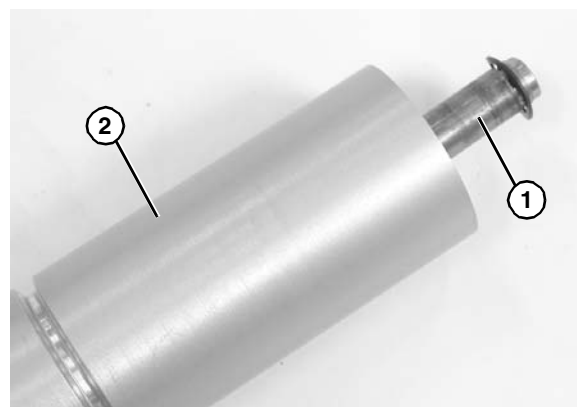

Figure 78
6. Slide the shaft assembly (**Figure 78, item 1**) out of the pulley (**Figure 78, item 2**).